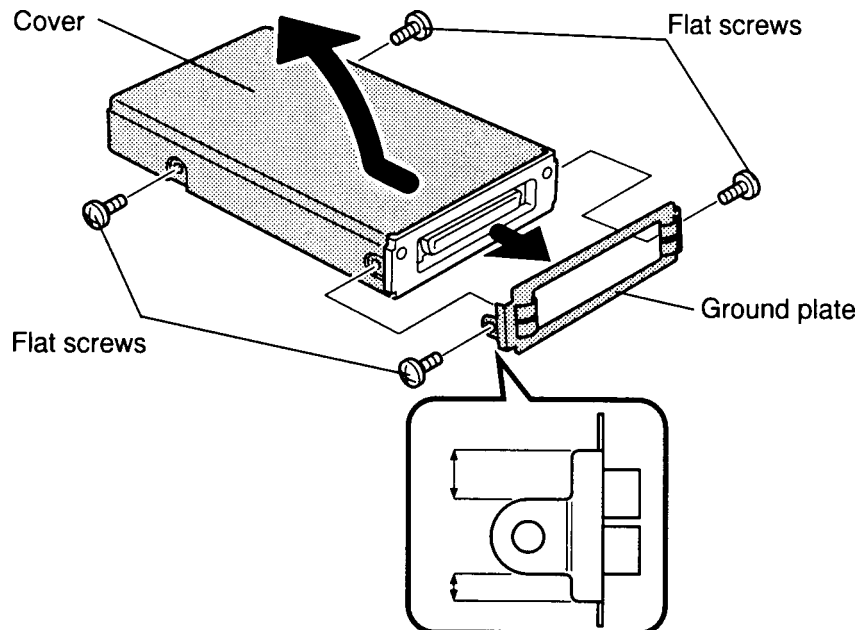

Figure 4-9 Removing the HDD cover
8. Remove the **VOID seal**, **two flat screws** securing the **ground plate** to the pack, and **two screws** securing the **cover** to the pack. Slide the **cover** forward slightly (about 2 cm) and lift it off (Figure 4-9).
3. Place the **HDD pack cover** onto the case aligning the screw holes and **ground plate**. Secure the cover with **four flat screws** (Figure 4-9).
NOTE: Be sure to secure the **ground plate** right side up, otherwise you will not be able to insert the HDD pack. The longer edge should be up. Refer to Figure 4-9.